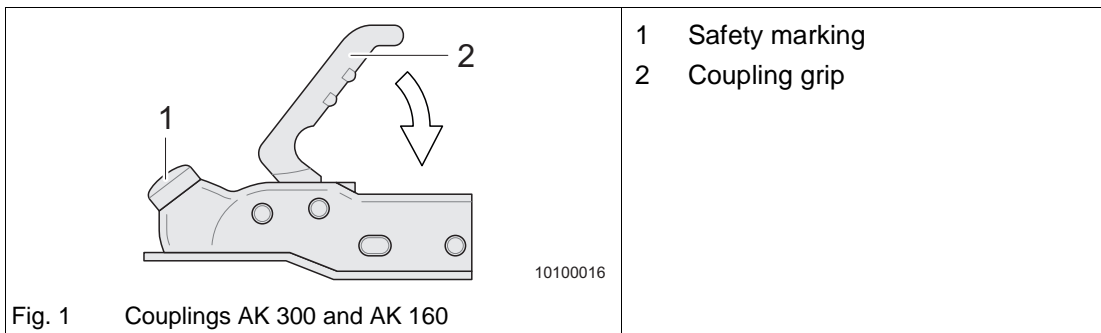

Fig. 1 Couplings AK 300 and AK 160
- Position the open coupling (Fig. 1) onto the tow ball of the towing vehicle until it fully engages with a click.
- To help, press the coupling grip (Fig. 1/2) down by hand.
- Check that the safety marking (green band) (Fig. 1/1) is visible.